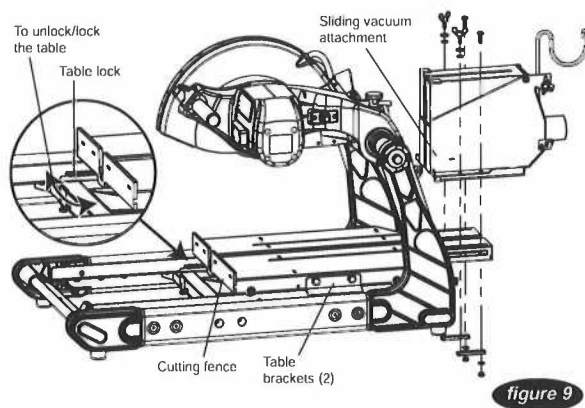

figure 9
1. Check the cutting table cannot be lifted from the rails. To check attempt to lift the table away from the rails. If the table can disengage from the rails the table brackets need to be adjusted. (see figure 9)
2. Each bracket (2) is held in place by two bolts. Adjust the brackets by loosening the bolts (2) and pulling the bracket up before retightening the hardware. The bracket should not come into contact with the rail.
3. To unlock the table from the rail push the table lock inwards towards the center of the saw *as shown in figure 9*. Do the reverse to lock the table.
5. Remove the hardware already mounted on the table and attach the sliding vacuum attachment. (see figure 9)